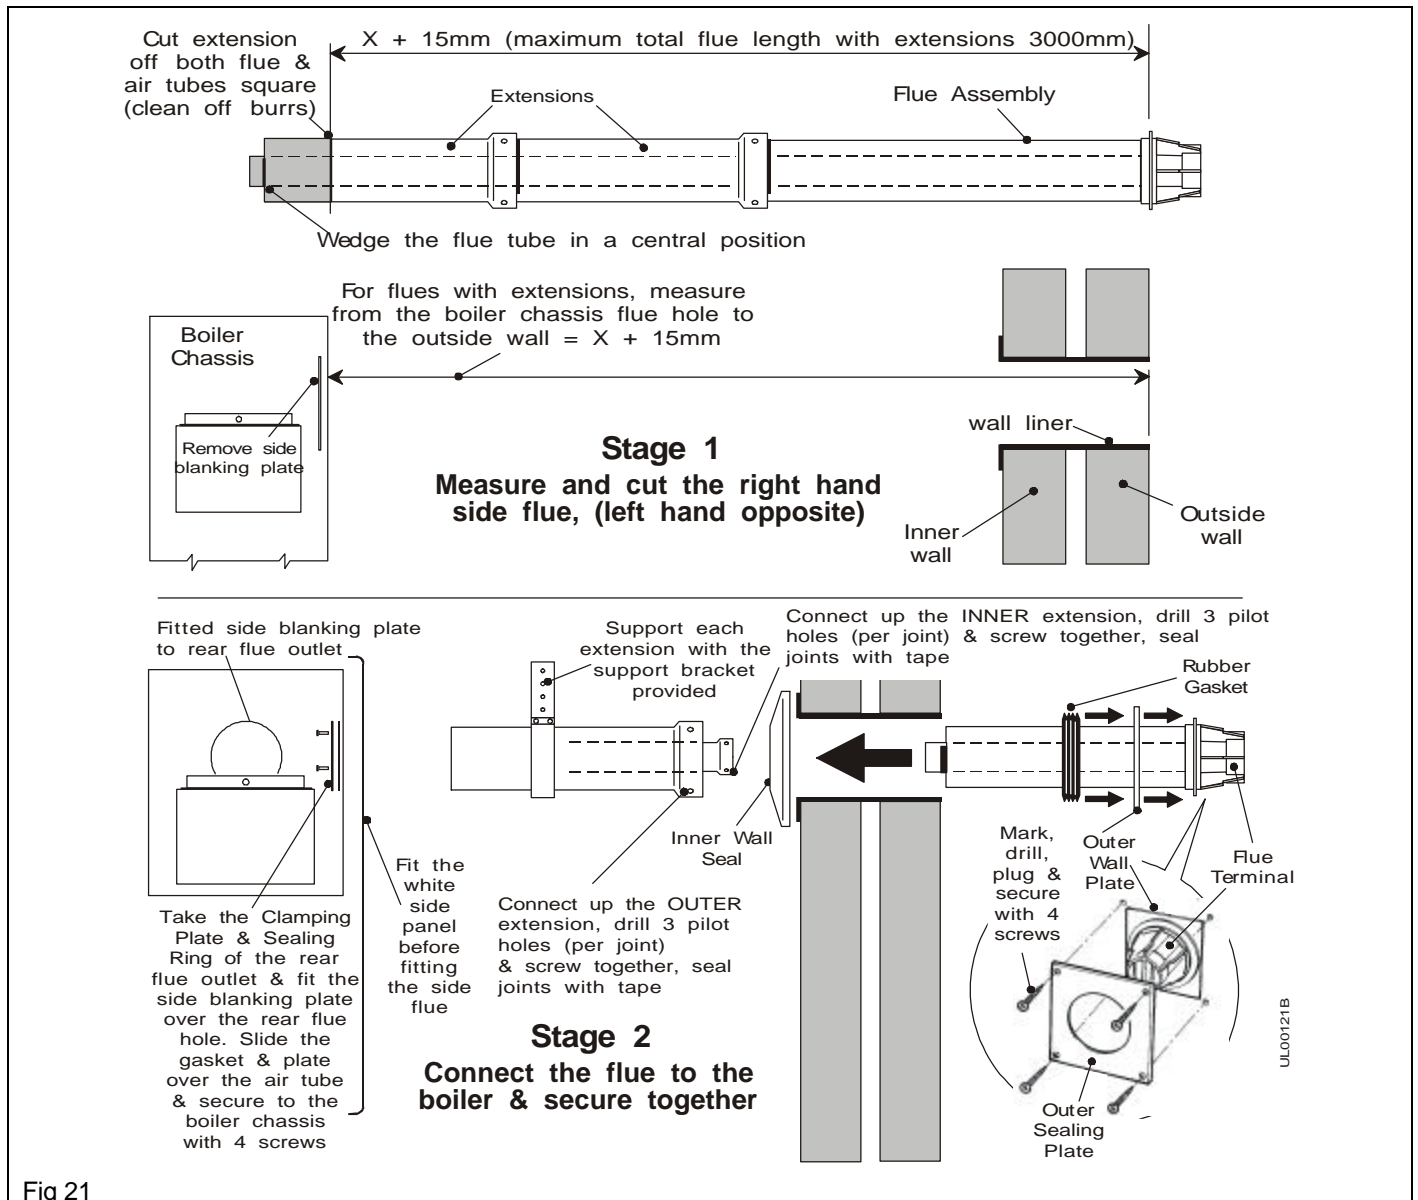

Fig 21
3. Mark the final extension (extension that will connect to the boiler) to the required length, measure from the back of the terminal flange. See Fig.21.
5. Install the flue assembly in the wall, See Fig.21 & slide the support brackets on the extension & connect up to the flue assembly. Using the pilot holes in the flared end of the extension, drill three 2.8 mm dia. holes into the outer tube of the flue/terminal assembly. Take care not to damage the inner flue tube with the drill.